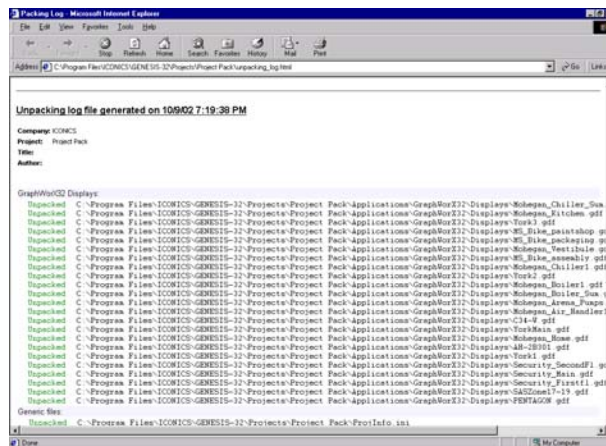

Figure 4.22
5. At the end of unpacking, you will get the same log information in an Internet Explorer page as you did after packing. See **Figure 4.22**: